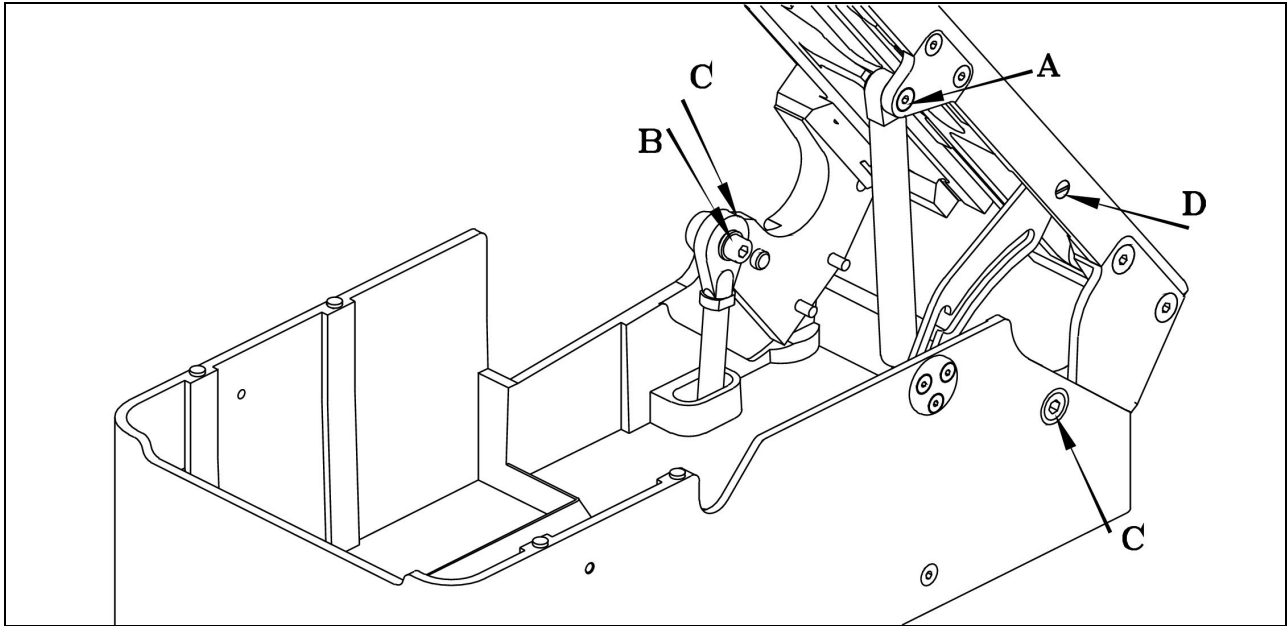

Fig 1
6. Remove screw (A) to take off the gas spring, Fig 1.
7. Remove the motor support rod (B) in Fig 1.
8. Remove both belts. See P44, item 3 for removal of the clutch assembly.
9. Remove the safety latch by removing screw (D).
10. Remove the hinge screws (C) holding the bedplate to the base.